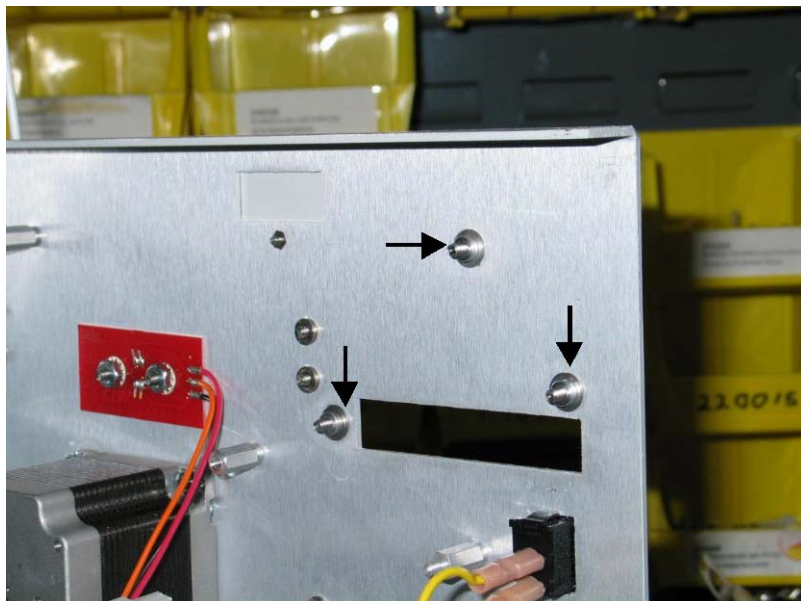

Figure 1-38 Washers and spacers installed (ASX-260).
12. Place a washer and then a spacer on the three mounting posts (Figure 1-38).